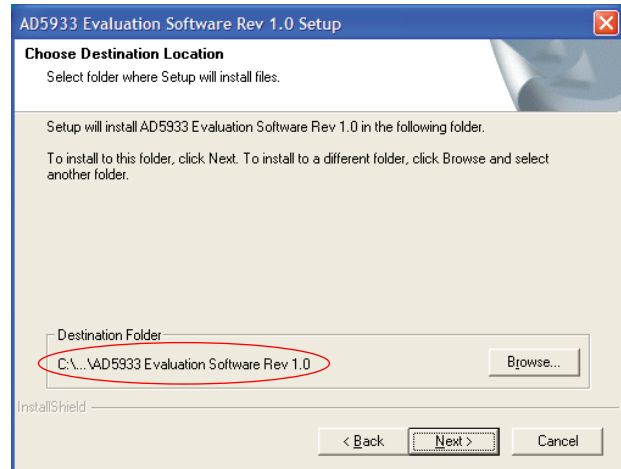

Figure 4. Default Destination Folder
3. Install the evaluation board software in the default destination folder path, **C:\Program Files\Analog Devices\AD5933\AD5933 Evaluation Software Rev 1.0 Setup** (see Figure 4).